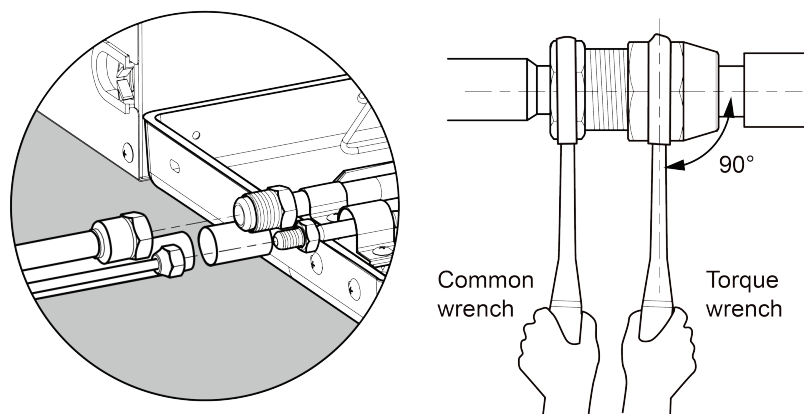

Fig.4.3.1
- (3) When laying the pipes, be careful not to deform them. The radius of bending parts should be more than 200mm(7-7/8inch). The pipes cannot be repeatedly bent or stretched, otherwise the material will get harder. Do not bend or stretch the pipe over three times at the same position.
- (4) Please use a torque wrench to connect union nut on the indoor unit. See Fig.4.3.1.